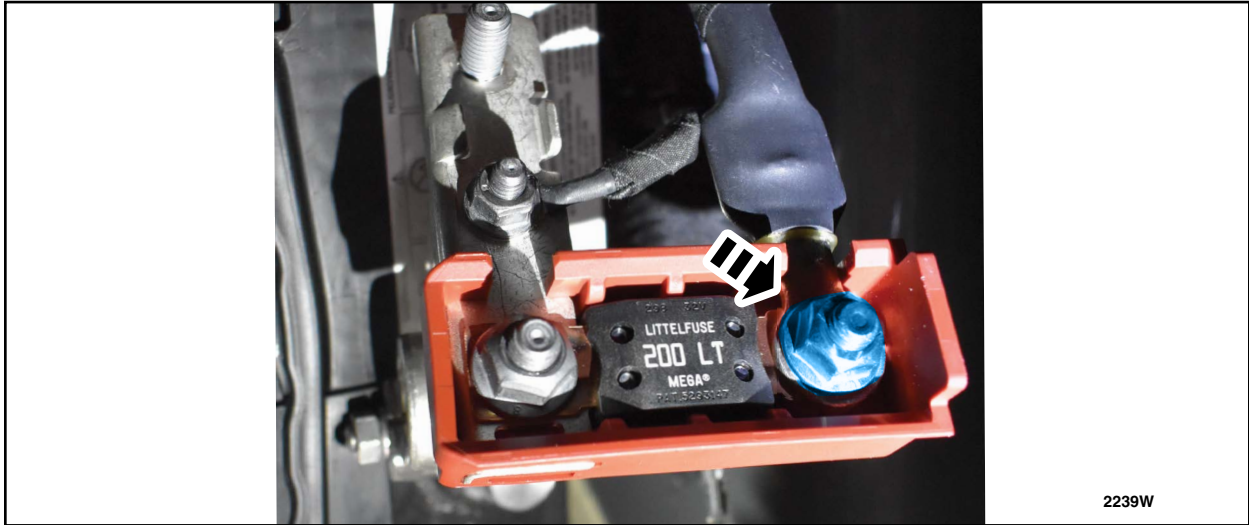

FIGURE 24
29. Disconnect the old harness from the positive cable. See Figure 24.